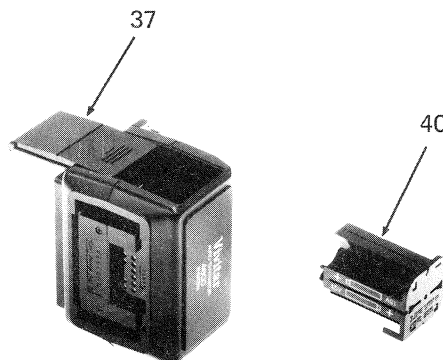

Figure 2-1. Battery Holder Removal
- A. Remove battery cover (37) completely by sliding open and pressing past retaining stop. Remove battery holder (40) from compartment. (Figure 2-1)